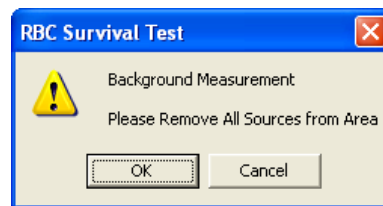

Figure 10-76
- Next, the screen prompts you to measure background counts as shown in Figure 10-76.